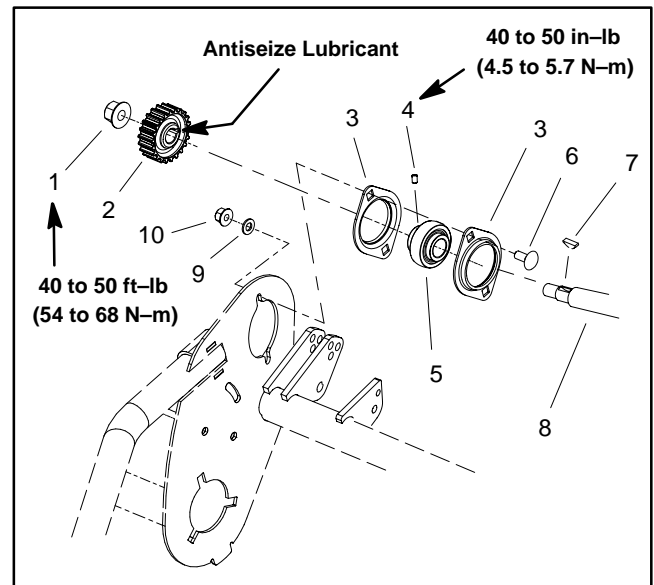

Figure 19
6. Remove flange nut that secures traction drive pulley (Fig. 19) on both sides of mower. Remove pulley and woodruff key from both sides.
7. Loosen set screws that secure extended race bearings to gearbox axles (Fig. 19).
8. Remove carriage bolts, flange nuts and flat washers that retain bearing flangettes to frame (Fig. 19). Slide flangettes and bearings toward gearbox.
10. Apply antiseize lubricant to bores of traction drive pulleys. Install woodruff keys and place traction drive pulleys onto gearbox axles with the flange inward (Fig. 19). Secure pulleys to axles with flange nuts. Torque flange nuts from **40 to 50 ft-lb (54 to 68 N-m)**.